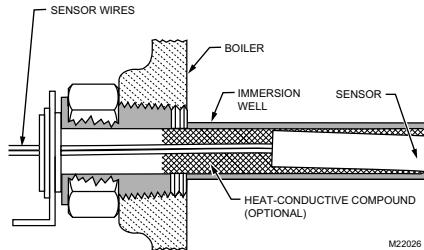

Fig. 4. Replacement sensor installation.
- Make sure sensor is fully seated to bottom of well (See Fig. 4). Use a small pencil to measure depth of sensor in well, if necessary.